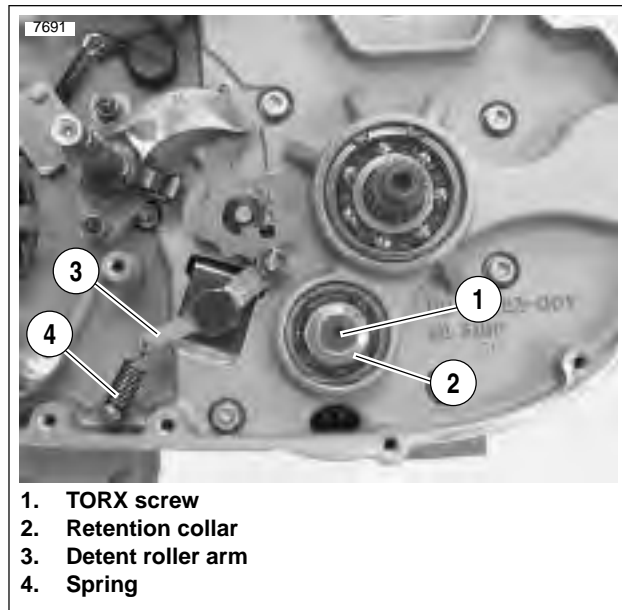

Figure 6-54. Countershaft Retainer
8. See Figure 6-54. Position retention collar next to end of counter shaft with beveled side facing outward.
- b. Insert screw (1) through retention collar (2) and thread into end of shaft.
- c. Place transmission in gear, and tighten TORX screw (1) to 13-17 ft-lbs (18-23 Nm).